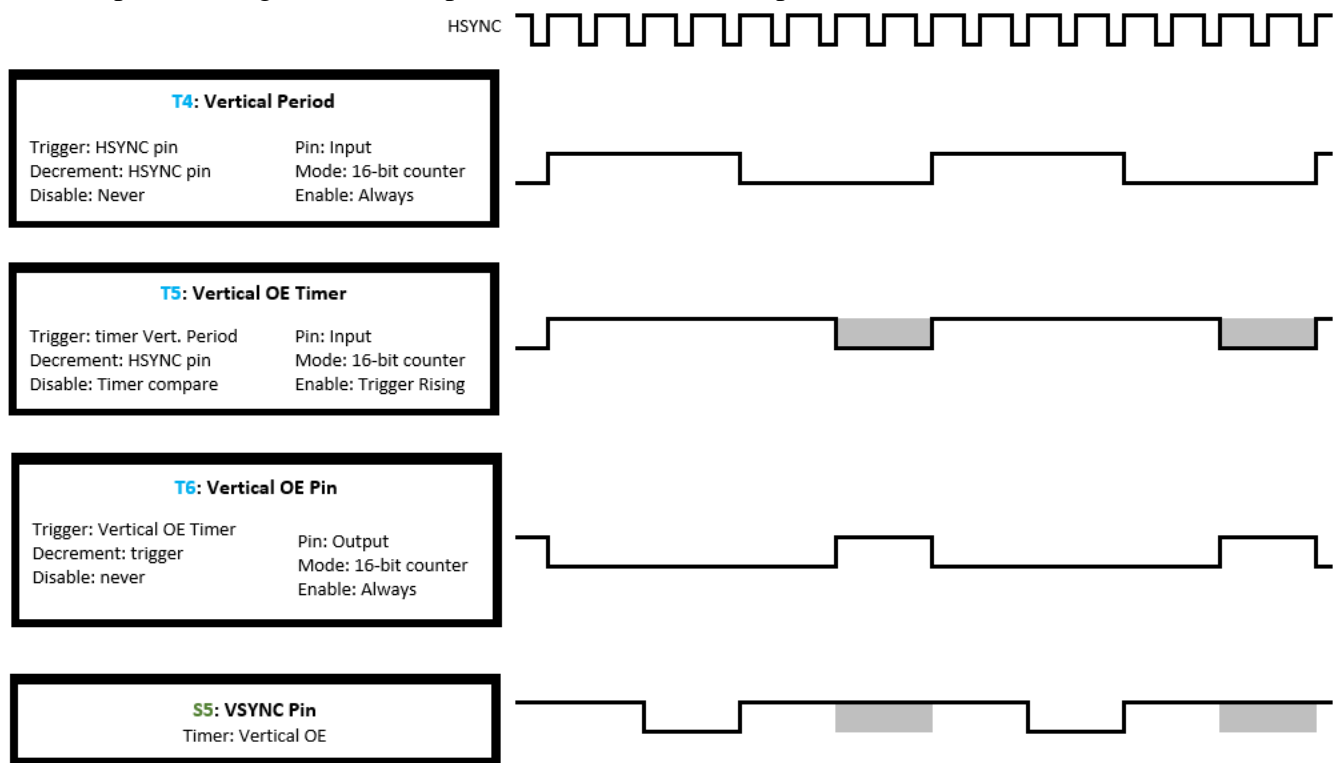

Figure 9. Vertical Timing Signals
*Figure 9* shows these vertical timing signals. Each vertical period starts on the rising edge of the Vertical Period signal. The Vertical OE Timer controls the timing for the VSYNC pulse width, and front and back porch. The figure shows when this timer is disabled in the gray shaded areas, which is also when the Vertical OE Pin is enabled/high. While this timer is enabled, the VSYNC Pin Shifter drives the VSYNC pin, creating the VSYNC pulse, and front and back porch.